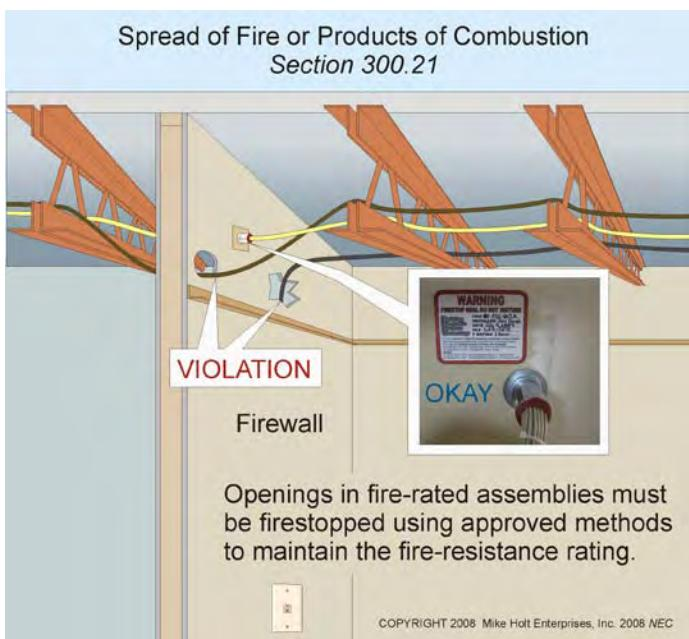

Figure 300-40
- This rule also applies to control, signal, and communications cables or raceways. **Figure 300-40**